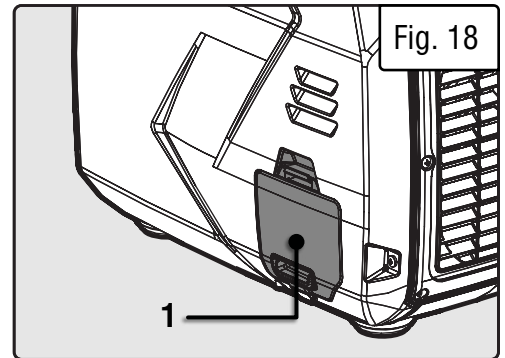
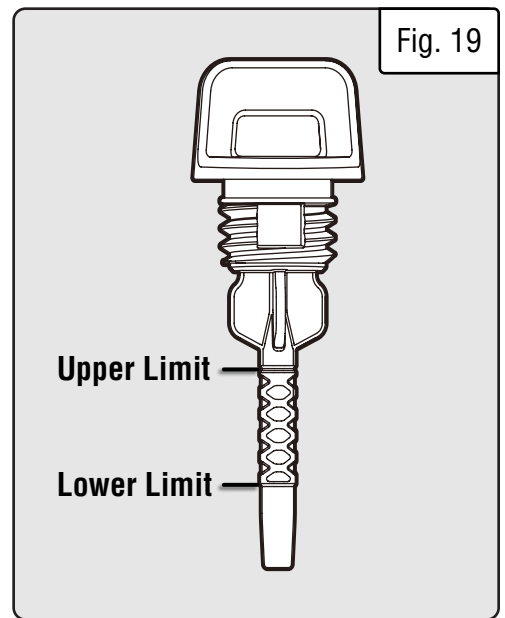

Fig. 18
Fig. 19
2. Open the oil access cover (Fig. 18 - 1). Remove the dipstick (Fig. 19) and wipe it with a clean rag.